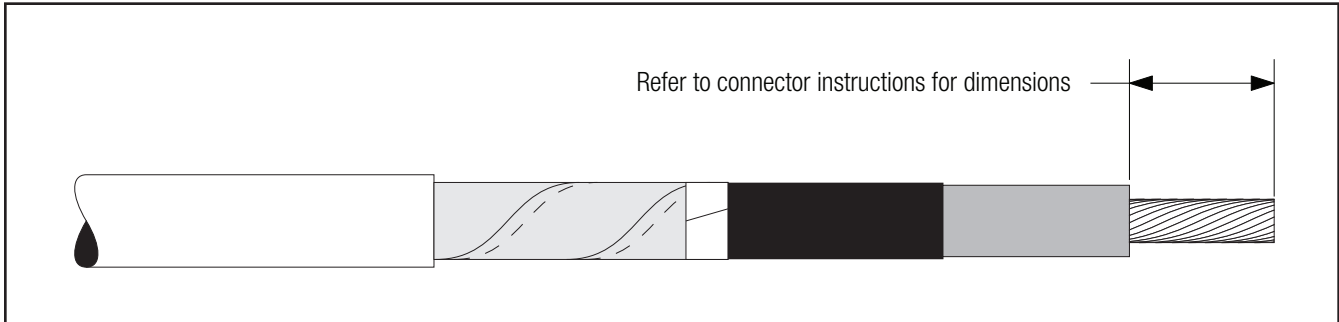

Figure 12
- 4.1** If using a 3M™ Shearbolt Connector QCI 350-750 or QCI 500-1000, refer to the instructions included with the connector for insulation cut-back dimension. Insulation removal length shall not exceed 3 3/4" (95 mm) from conductor end (*Figure 12*).